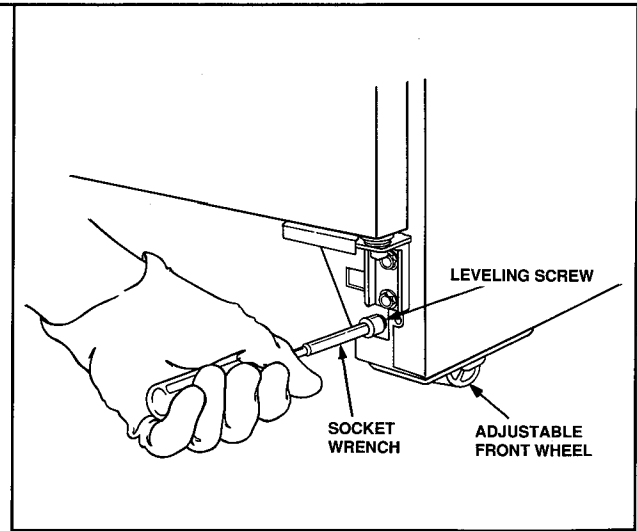

Figure 33
- g. Leveling wheels. To raise cabinet, rotate leveling screw in front of roller clockwise (↻) using the 3/8" hex nut driver. See Figure 33.